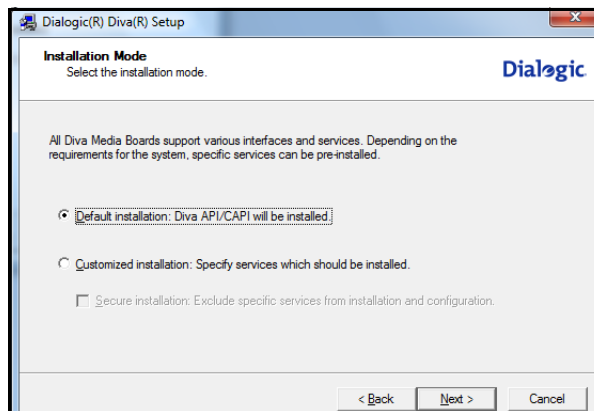

Figure 31: Installation Mode
18. Click **Next** for default installation (Figure 31 below).